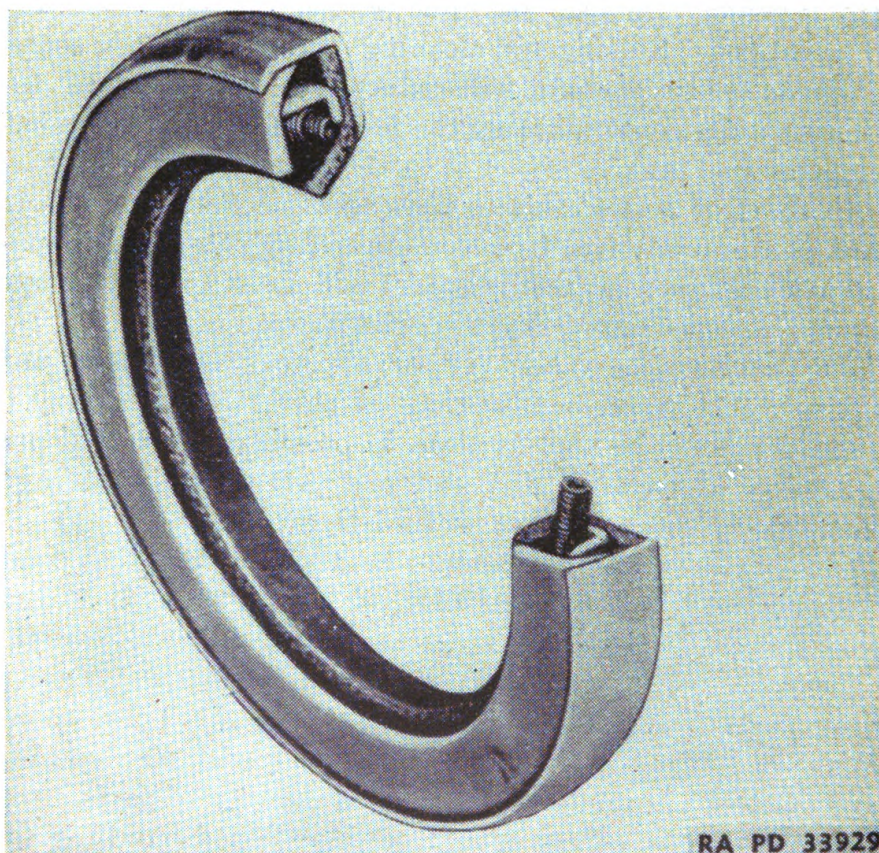

FIGURE 4.—Oil seal.
d. Oil seals.—The rawhide seal (fig. 4) has a leather wiping edge which is held around a surface to be sealed by the tension of a spring.